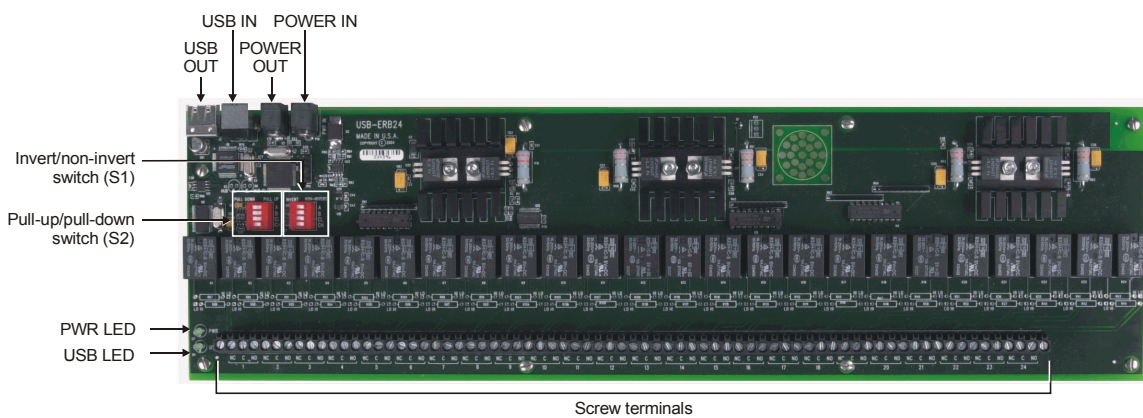

Figure 3-1. UCERB 24 components
The UCERB 24 has two on-board switches that you set to configure the relay logic polarity and the resistor pull-up/down configuration. Configure these switches before you connect the external power supply to the UCERB 24. Factory-configured default settings are listed in Table 2-1. Refer to Figure 3.1 for the location of each switch on the UCERB 24.
The UCERB 24 has two on-board switches that you set to configure the relay control logic polarity and the relay power-on state. Factory-configured default settings are listed in Table 2.1 Refer to Figure 3.1 for the location of each switch on the UCERB 24.
1. Connect the external power cord to the power connector labeled **POWER IN** on the UCERB 24 enclosure (**PWR IN** on the board). Refer to Figure 3-1 for the location of this connector.
The UCERB 24 has the following internal components, as shown in Figure 3-1.